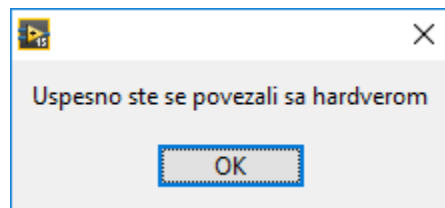

Figure 3.3
3) If the professor has confirmed to the student that he can connect to the hardware (Figure 3.3).